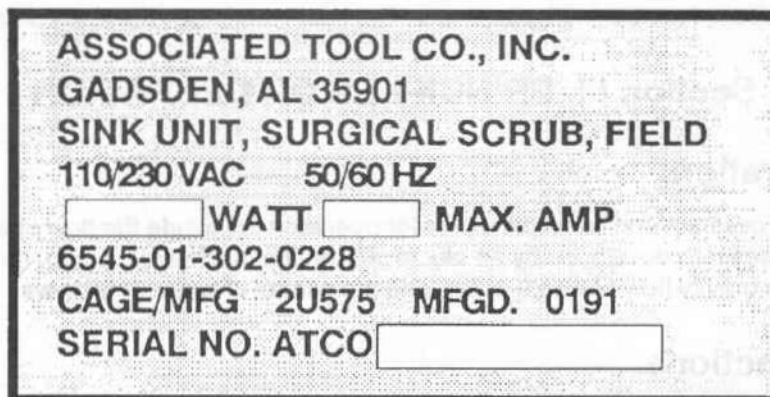

Figure 1-4. Control box data plate.
(2) Control box.
- (a) Identification information as provided on the data plate located on the control box cover is shown in figure 1-4.